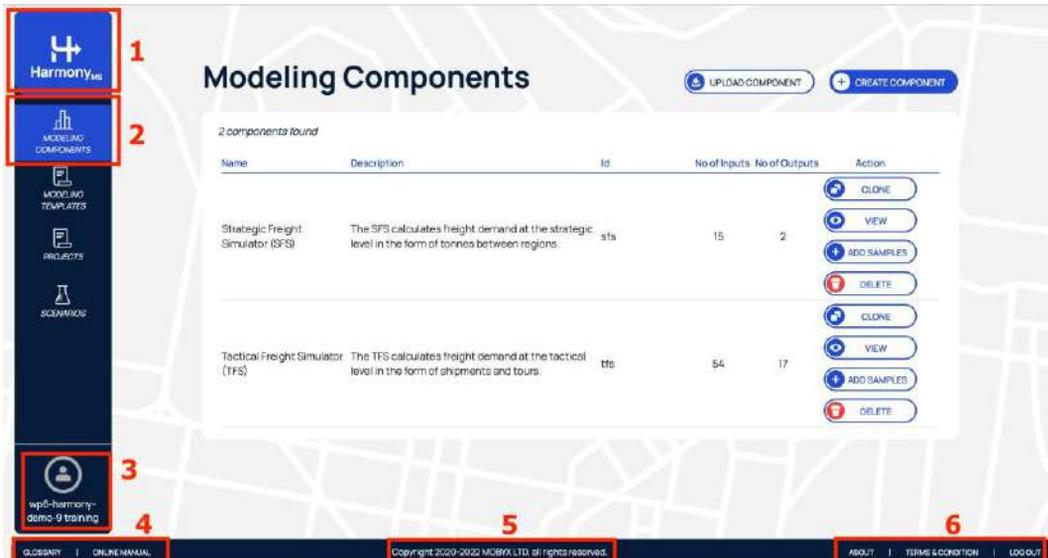

Fig. 4 - Example of a Modeling Components page
For instance, if the user clicks on the "Modeling Components" in the home page, they are redirected to the corresponding page, which will look like the one of Fig. 4. Note that depending on the components that are so far created or uploaded, different components would appear in the list. However, each of the main screens (Modeling Components, Modeling Templates, Projects, Scenarios) has the following in common:
1. The **logo** of the MS appears at the top left of the screen - [1] in Fig. 4.